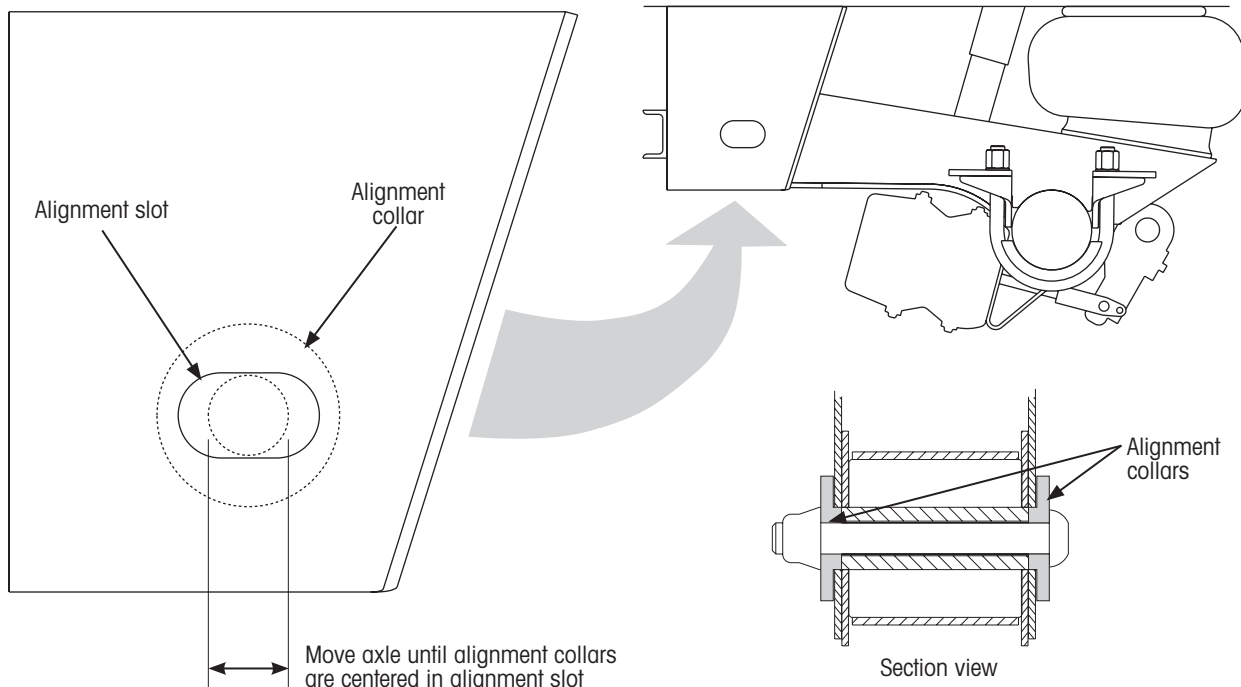

Figure 26: Axle positioning on the welded-collar type frame bracket when major adjustment (both axle ends) is necessary
- B. With both axle ends loose, **move** the axle until the alignment collars are centered in the frame bracket alignment slots (Figure 26).